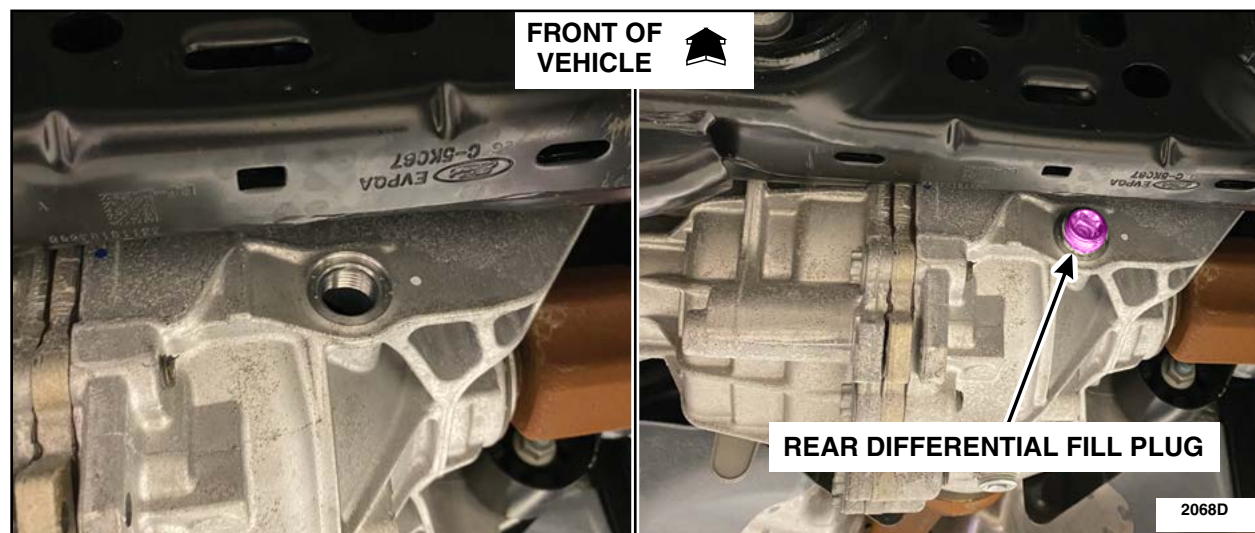

FIGURE 4
10. Install a *new* rear differential fill plug. See Figure 4.